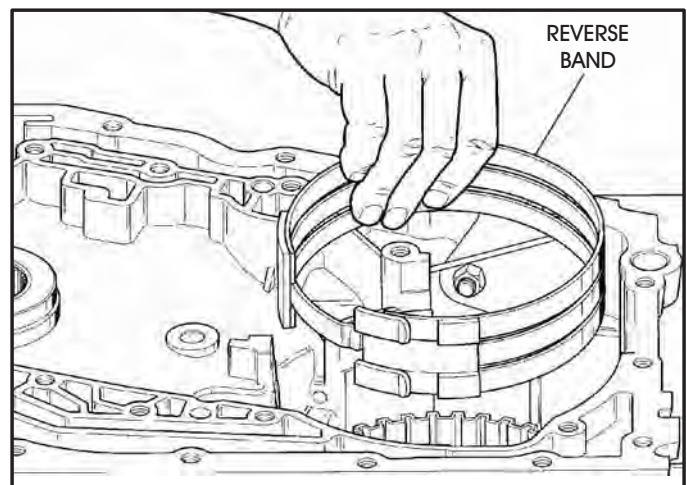

Figure 67
47. If the reverse band is still in the transaxle case, remove it at this time as shown in Figure 67.